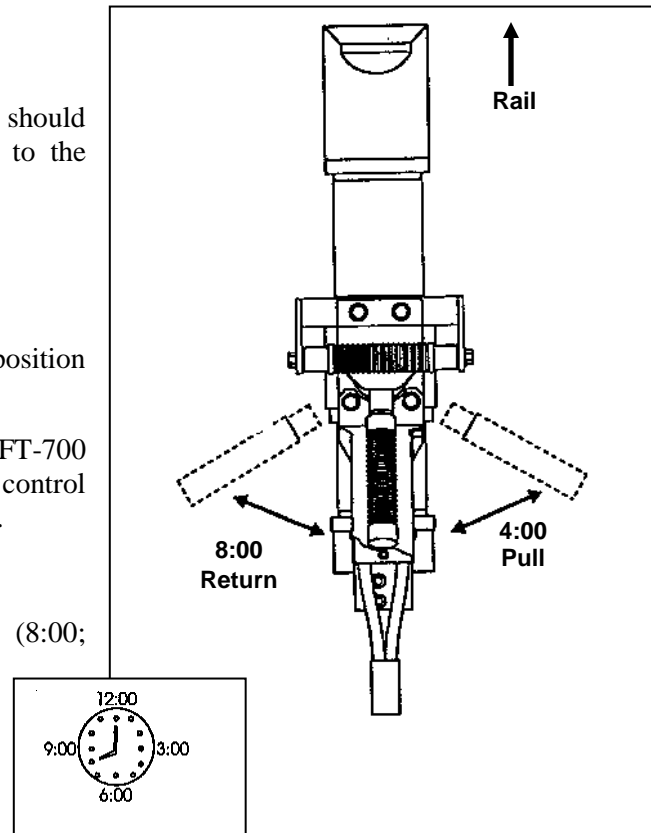
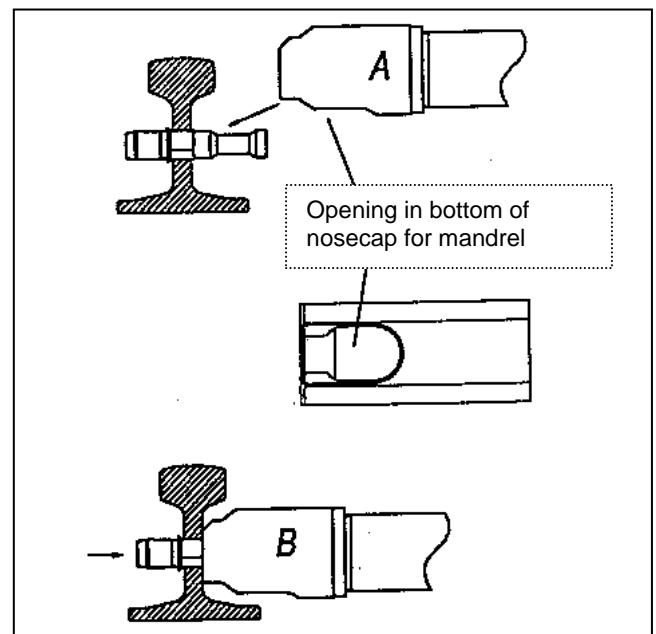

Figure 3.1-1
Figure 3.2-1
4. Place puller control valve in neutral, center position (6:00; Figure 3.1-1).
7. Move puller control valve to return position (8:00; Figure 3.1-1).
8. When puller jaw has fully returned (forward position), place control valve in neutral position (6:00; Figure 3.1-1).
1. With proper mandrel and sleeve inserted in hole, install puller noscap over mandrel from above (Figure 3.2-1, piece A).
2. Activate puller to pull mandrel through the sleeve in the hole by putting control valve in 4:00 position (Figure 3.2-1, piece B). Refer to Figure 3.1-1 for control valve position.